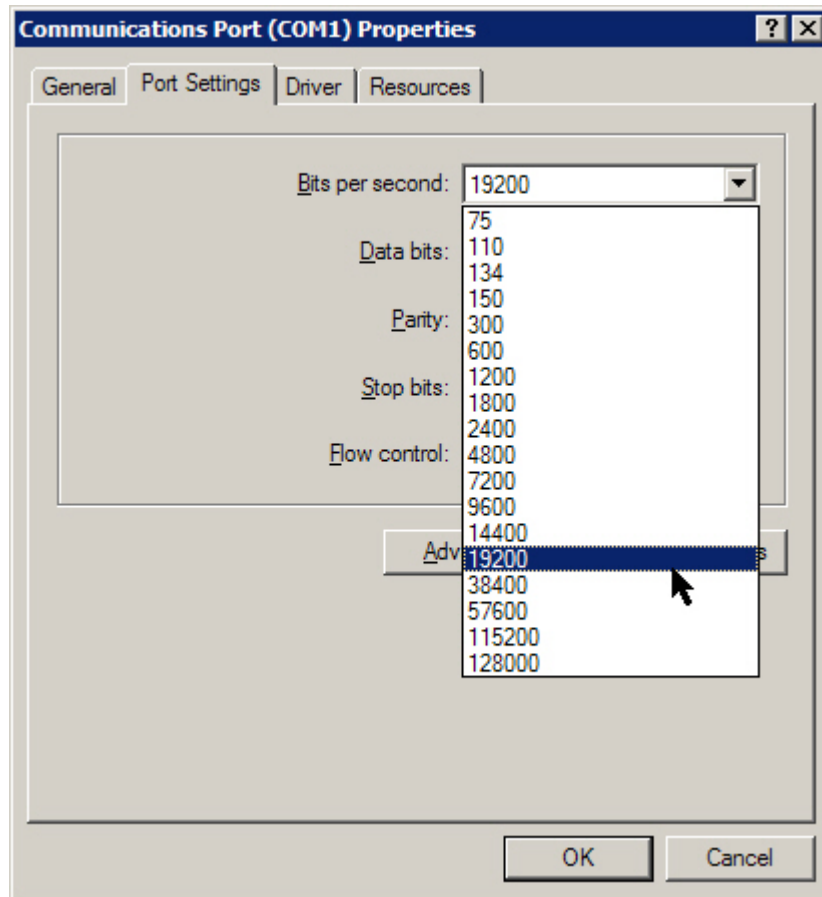

Figure 5. Setting the bits per second
7. From the Bits per second list, select one of the following (see Figure 5):